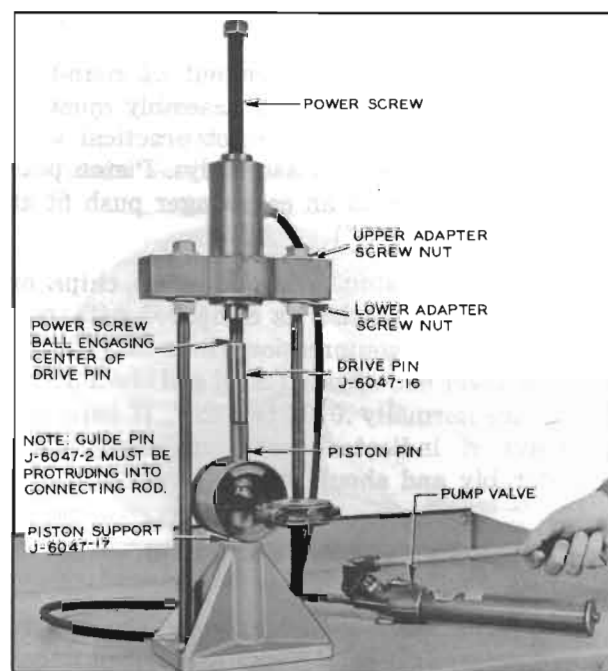

Figure 2-34—Installing Piston Pin
1. To assemble piston, pin, and rod, first place Piston Support J-6047-17, Return Spring J-6047-3, and Guide Pin J-6047-16 in base plate of press. Use the piston support with the full radial face upward. See Figure 2-34.
3. Place small end of Drive Pin J-6047-4 in hold in upper (protruding) end of piston pin and position the assembly in the press. See Figure 2-34.